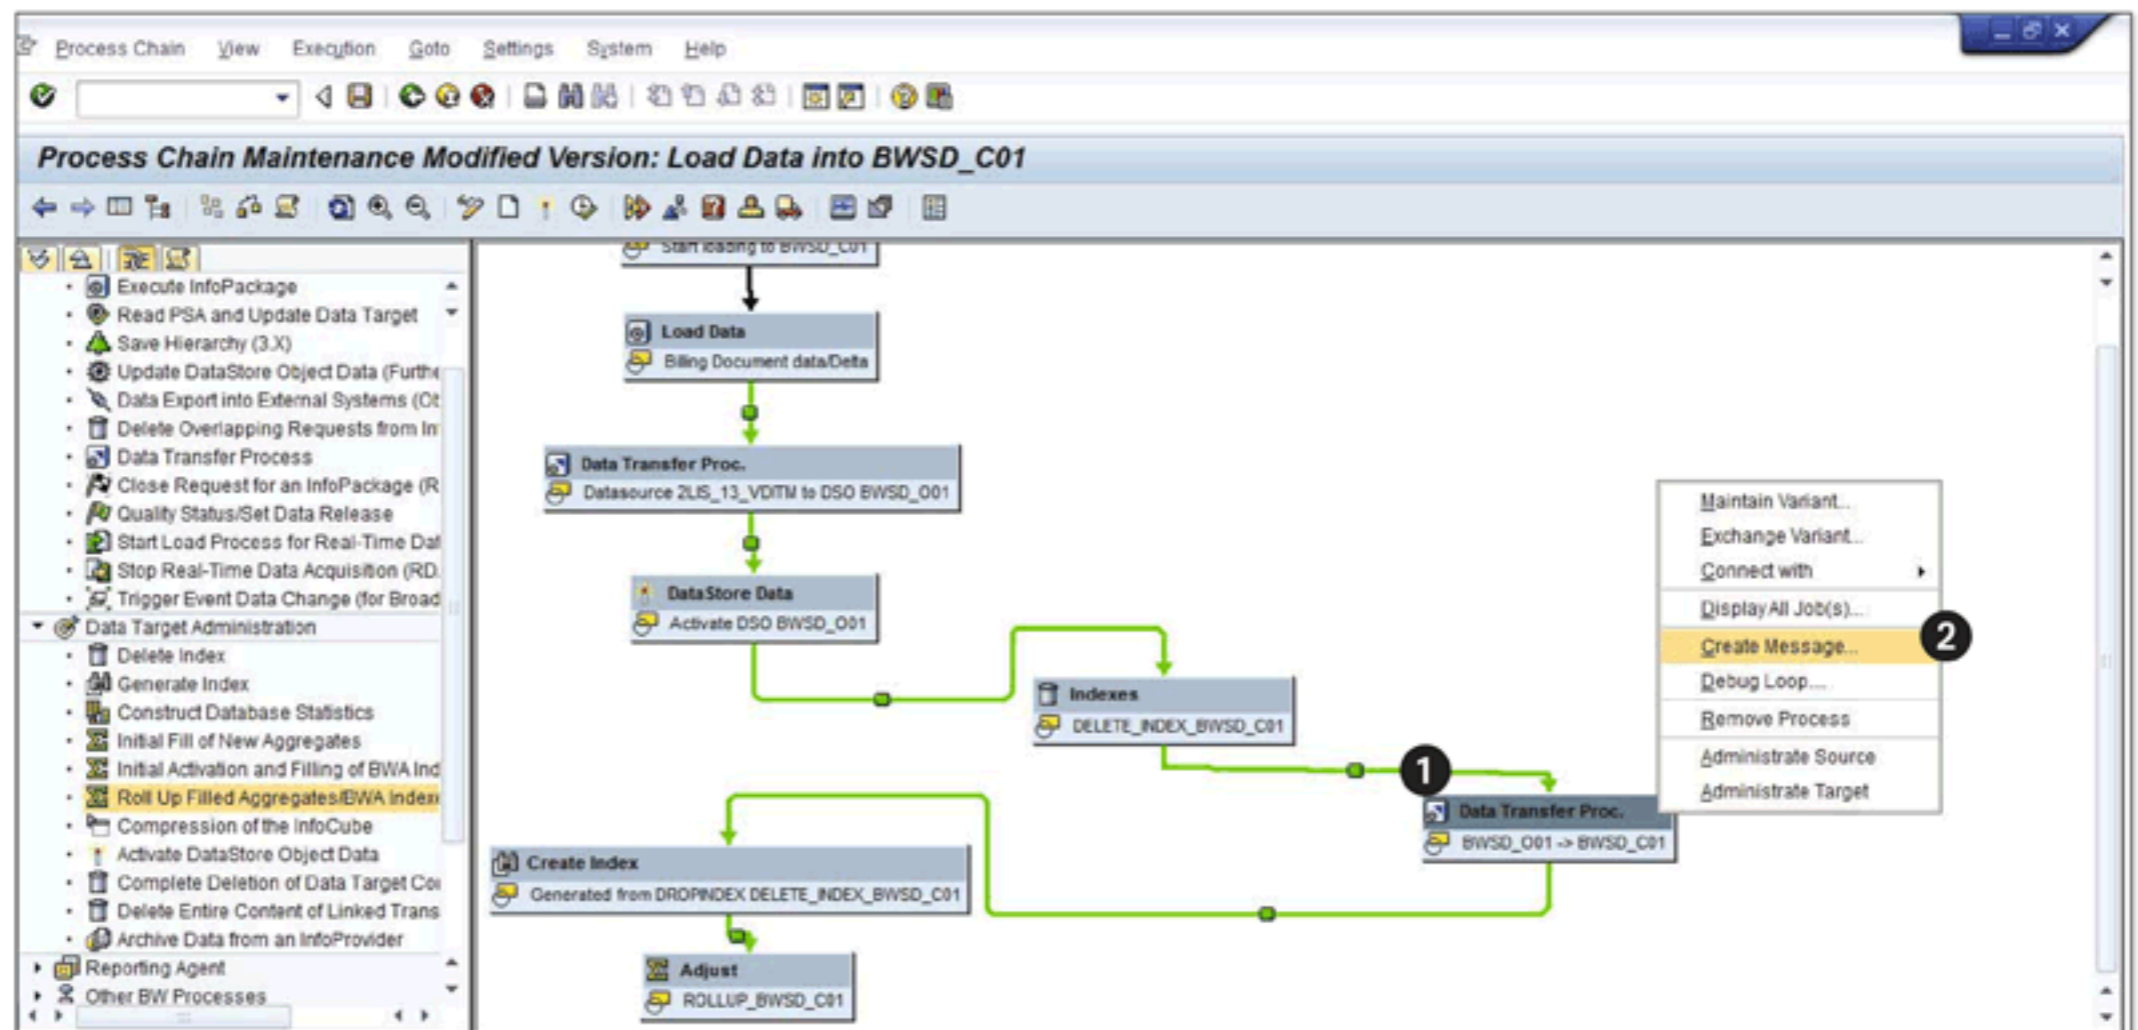

Figure 14.35 Setting Alert Message in Process Chains
We must also set up emails that alert solution administrators to the failure of a data load between the DSO and InfoCube. To do this, select the DTP item in the process chain that is responsible for loading the data from DSO BWSD_O01 to InfoCube BWSD_C01 (1 of Figure 14.35). Open the context menu and select CREATE MESSAGE (2).